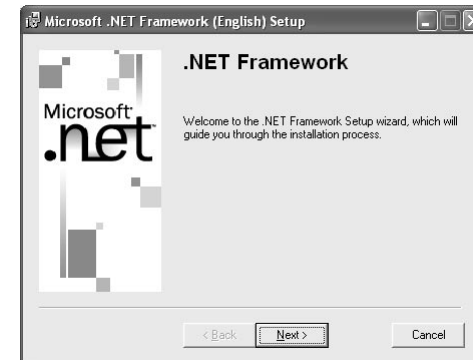

Fig.6 Microsoft .Net Framework installer start screen
- 3** The installer programme shown in Fig.6 now starts. Proceed with the installation by following the installer instructions.